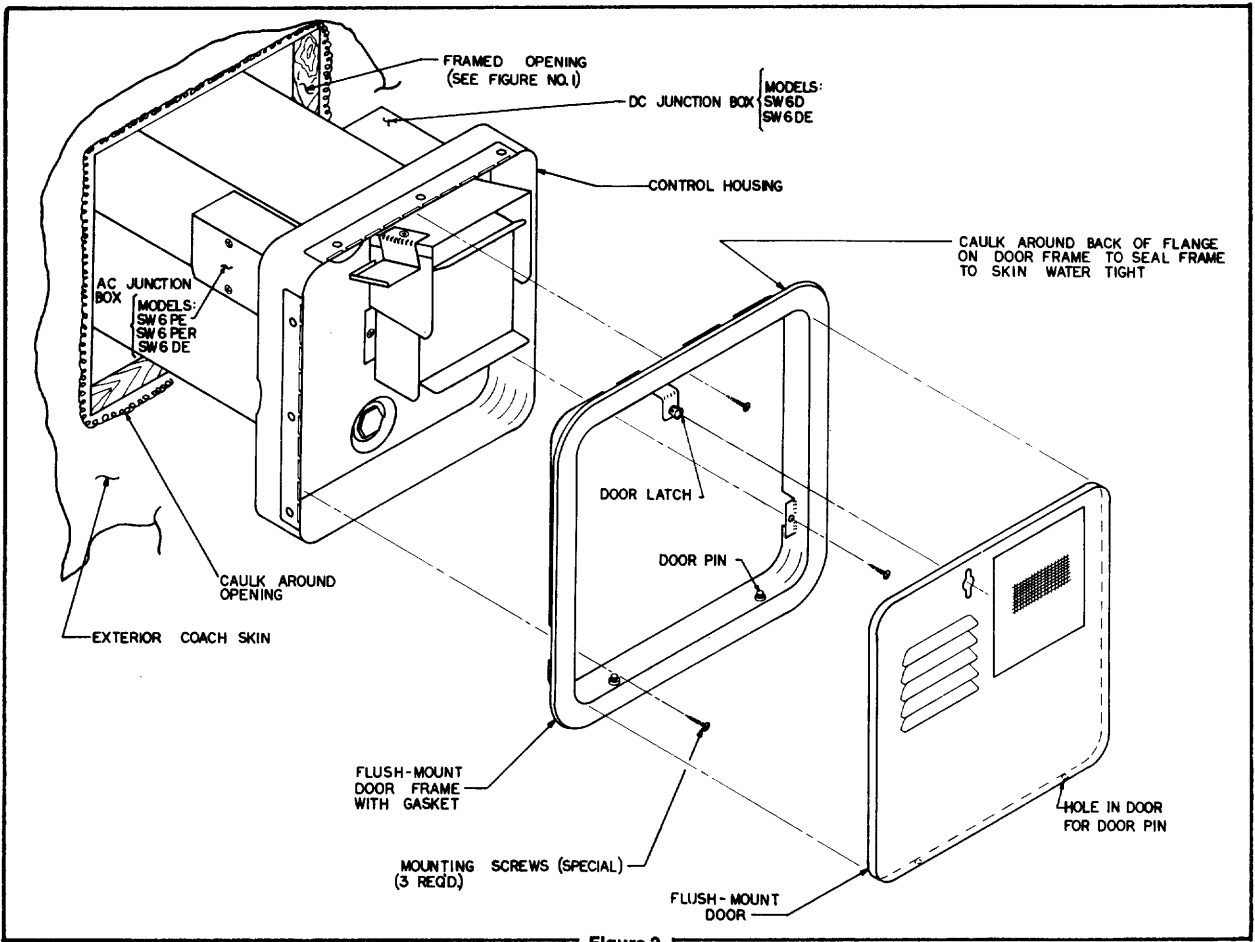

Figure 2
## I. INSTALLATION USING FLUSH MOUNT FRAME AND DOOR (See Figure 2 for illustration)
B. Refer to Figure 2 for location of D.C. junction box on models SW6D and SW6DE. Refer to Figure 6 for location of D.C. junction box on model SW6DM.
B. Refer to Figure 2 for location of A.C. junction box.